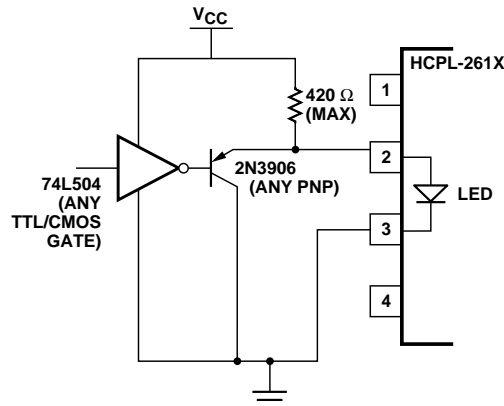

Figure 22. TTL Interface Circuit for the HCPL-261A/-261N Families.
1. Use of drive circuits where current is shunted from the LED in the LED “off” state (as shown in Figures 22 and 23). This is beneficial for good CMR_H .
Using any one of the drive circuits in Figures 22-24 with $I_F = 10$ mA will result in a typical CMR of 8 kV/ μ s for the HCPL-261N family, as long as the PC board layout practices are followed. Figure 22 shows a